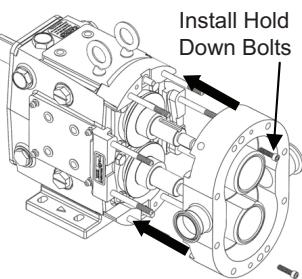

Figure 57. Installing Pump Body
1. Make sure all seal components are installed by following "Seal Maintenance" instructions provided on page 24. Ensure all dowels are in place and that all parts including body, rotors, and rotor nuts are clean and free of foreign matter. Slowly slide the body over the gear case studs and shafts, ensuring the seals are kept in place and not damaged (*Figure 57*). Install the two hold-down bolts and tighten the body against the gear case to ensure the dowels are engaged. Rotate the shafts to make sure there is no interference with the seals.